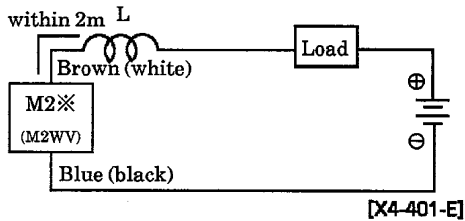
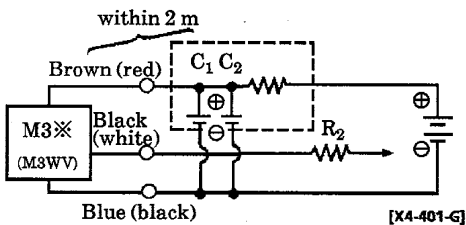

Fig. 5 ● Choke coil
Fig. 7
- If the total length of the lead wires exceeds 10 m, be sure to install a protection circuit as shown in Fig. 5 and 6 (for M2※M2WV) and Fig. 7 (M3※M3WV).